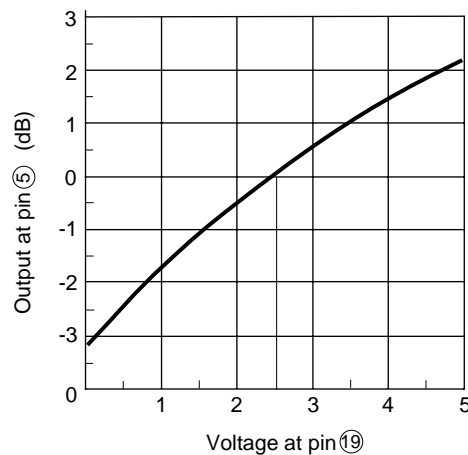

Fig. 3 Color control characteristics
(5) Color control characteristics
Gain in chroma section can be set as shown in Fig. 3 by applying voltage to pin ⑲ (COLOR CONT.). (The burst amplitude is fixed.)